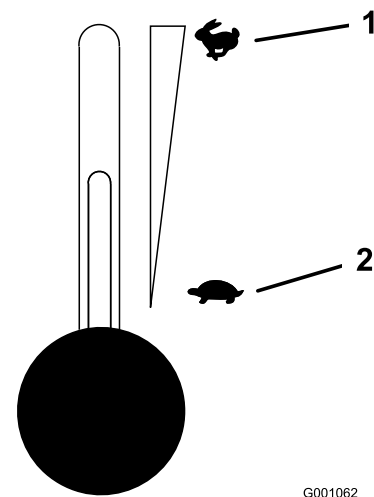

Figure 14
- Move the throttle lever midway between the slow and fast positions (Figure 14).